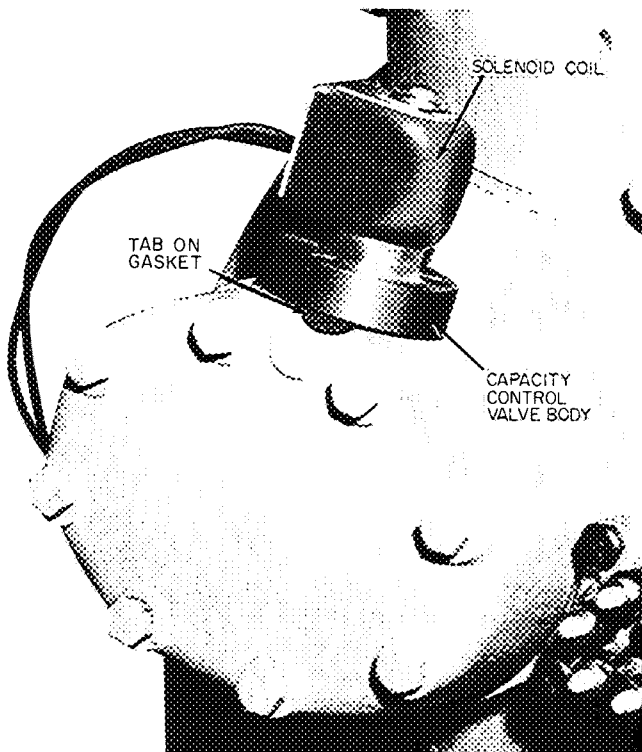
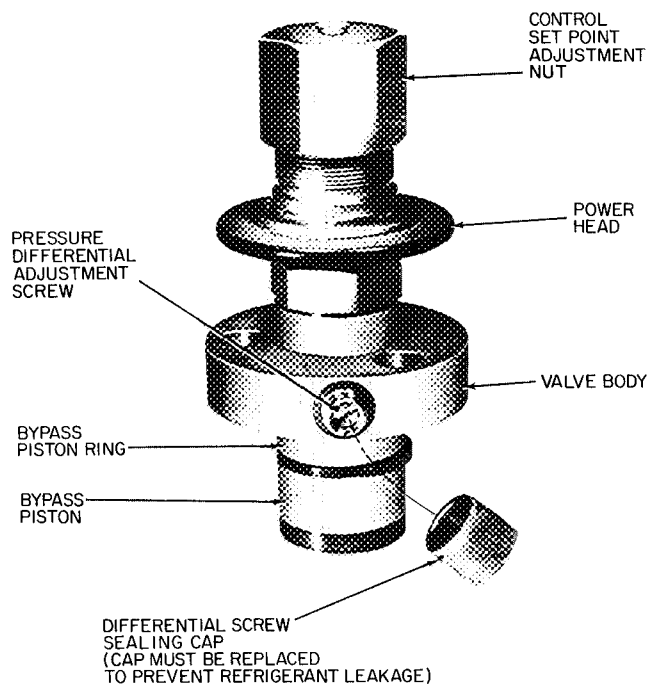

Fig. 1 – 06D Electric Capacity Control Valve
Fig. 2 – Pressure Operated Capacity Control Valve
Align the 2 gasket holes opposite the tab with 2 holes in flange. The elongated gasket hole at the tab (Fig. 1) should now be over the 3rd flange hole, which is offset to ensure proper orientation of valve on cylinder head. *Proper gasket position ensures unobstructed pressure passages between capacity control valve and head.*
6. Wipe the head cavity walls clean and apply thin film of compressor oil. Carefully compress bypass piston ring (Fig. 2) and insert piston into head cavity. *Be sure gasket does not shift. Tab must be outward as shown in Fig. 1*
To Regulate Control Set Point – First turn the adjustment nut (Fig. 2) clockwise to its bottom stop. In this position, set point is 85 psig.
To Adjust Pressure Differential – Turn differential adjusting screw (Fig. 2) counterclockwise to its back-stop position. Differential is now 6 psi.